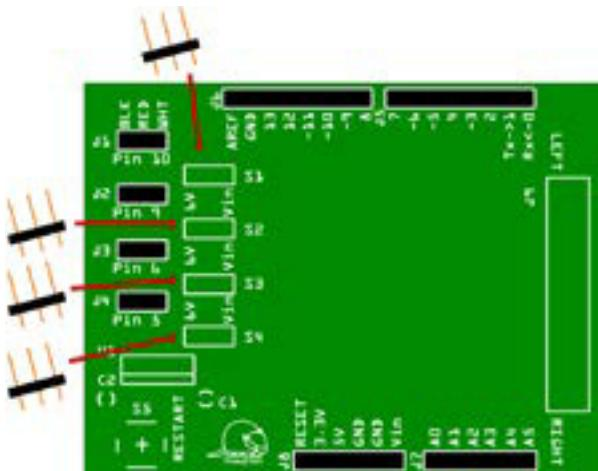

Figure HT3-7. Location to insert female headers
5. Insert the four female headers into the top of the circuit through the locations marked J1, J2, J3, and J4, as shown in Figure HT3-7. Solder from the bottom.